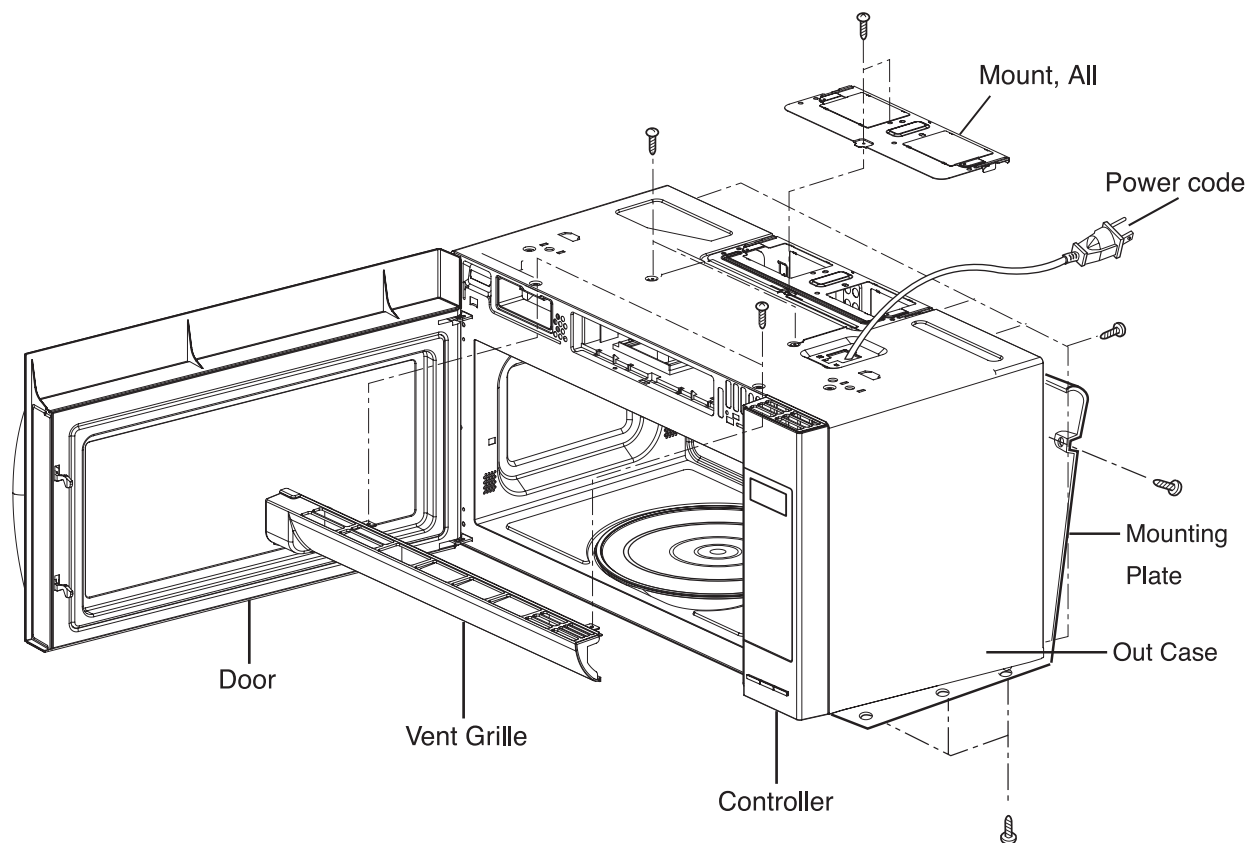

Figure 8
B. REMOVING THE OUT CASE(Figure 8)
- (1) Remove the vent grille by removing two screws securing it to the out case.
- (2) Remove two screws securing it to the air duct.
- (3) Remove the mounting plate by turning the screws (1 or 2 screws)securing it to the out case.
- (4) Remove two screws on the left central edge and one screw on the right central edge of Base plate. Remove the Mount, All from the out case by removing one screw securing it to the out case.
- (5) Remove six screws of the rear cavity.
- (6) Remove the outcase.